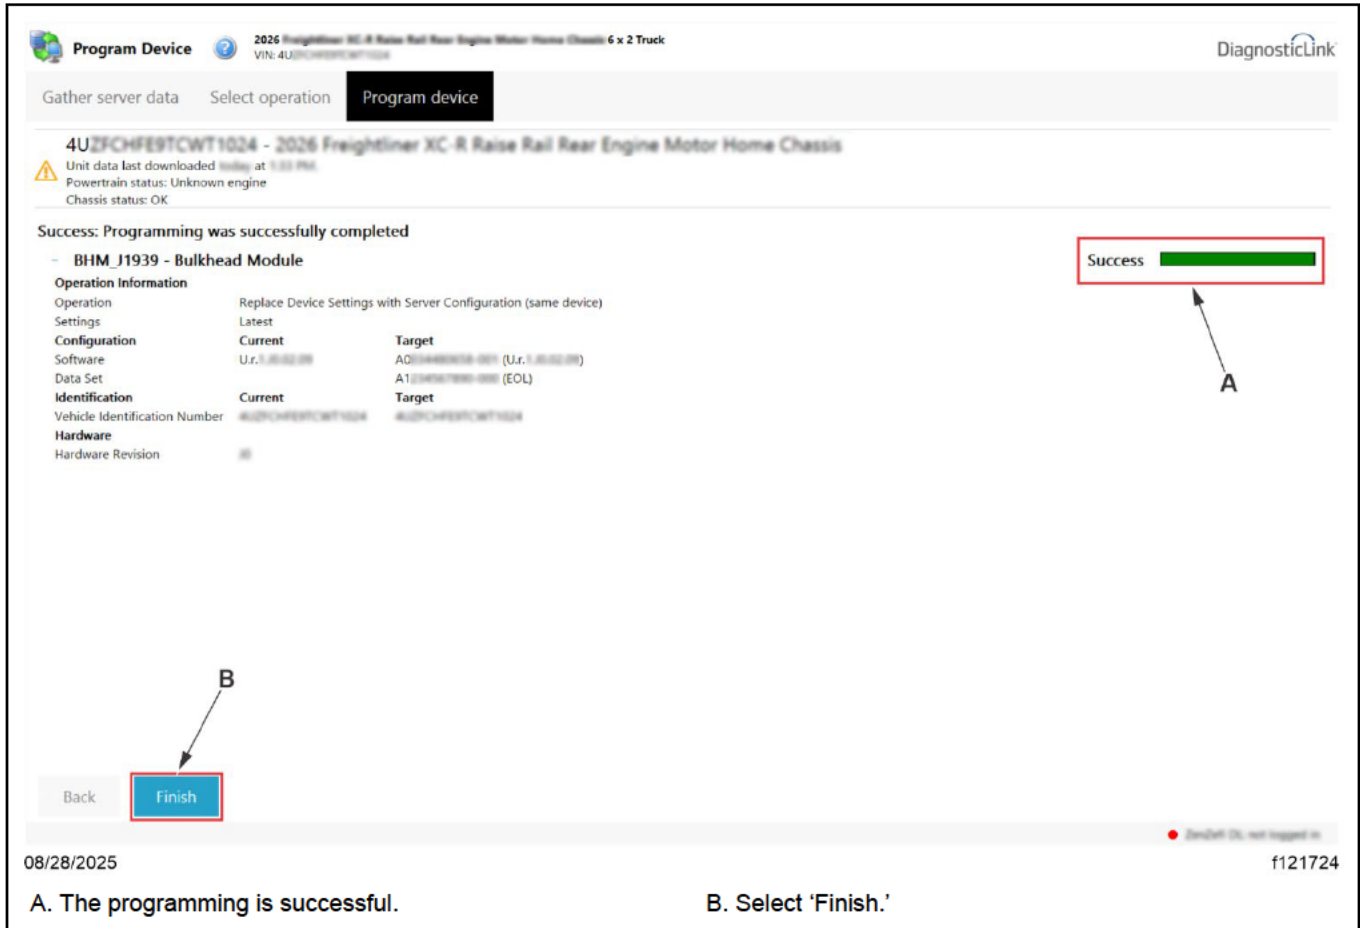

Fig. 6, Programming Successful
14. Once the programming is successful, select 'Finish.' See Fig. 6.